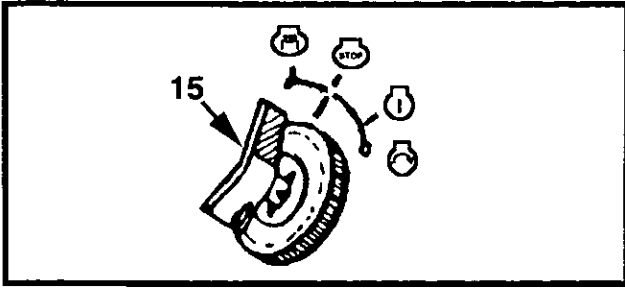

Figure 4-10 Ignition Switch
10. With brake applied, turn ignition switch key to position (Figure 4-10).
11. Return ignition switch key to  position (Figure 4-10).
- 5a. When starting in very cold temperature conditions, initially turn the ignition key to Preheat position  (Figure 4-10), for 20 seconds, then turn to the engine start position .
- 5b. When normally starting a cold engine, use the excess fuel control by pulling out the control knob located on the right face of the engine canopy, Start engine by turning ignition switch key to  position (Figure 4-10). Once engine starts, release switch immediately, and it will return to  position (Figure 4-10).